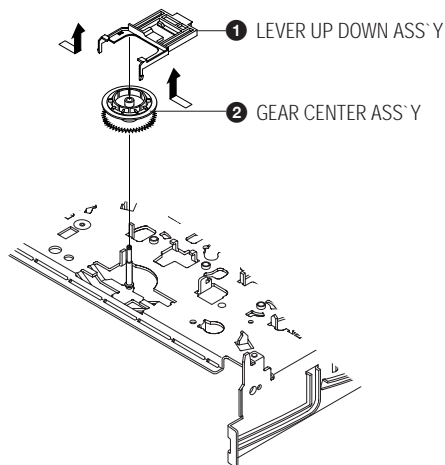

Fig. 2-29 Lever Up Down Ass'y Removal
- 1) Remove the 2 hooks in the direction of arrow as shown Fig. 2-29 and lift the Lever Up Down Ass'y ❶.
- 2) Lift the Gear Center Ass'y ❷.